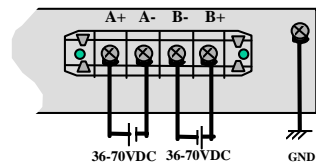

Figure C5.0: -48VDC Dual-Source, wiring connections to the External Terminal Block on a Magnum 48VDC with Dual-Source option
The -48VDC terminal block on the Magnum 6K25 Switch, as shown in Fig C5.0 is located on the right rear of the unit and is equipped with five (5) screw-down lead posts. If it is the reverse model it is located on the left rear. The primary terminals are identified as positive (A+), negative (A-), and the secondary power terminals as negative (B-), positive (B+). The chassis "earth" or ground (GND) is a threaded post with a #6 nut. The Dual Source terminal block for the 24VDC and 125VDC are similar.